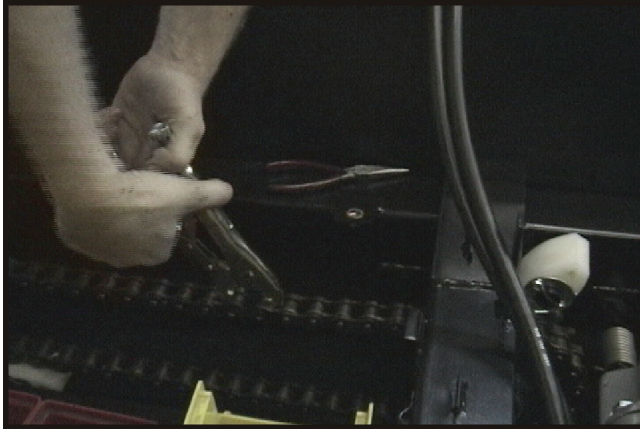

Figure 7-4. Holding chain together to insert connecting link
1. Feed the chain around each sprocket and clamp the free end with a modified vice grip (ODG part # 658-38). Figure 7-4.